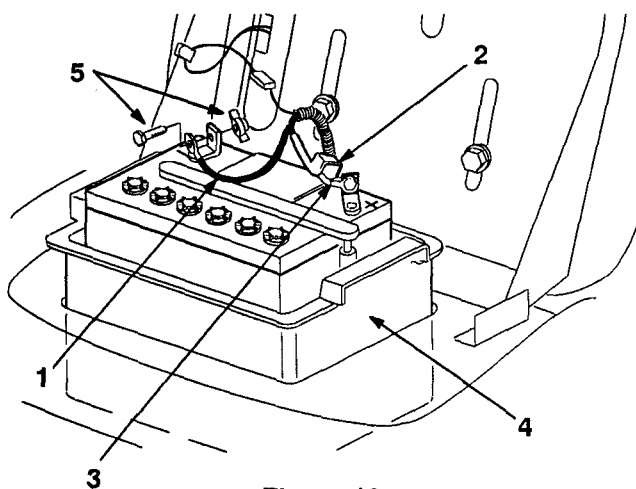

Figure 19
3. Disconnect the negative (black) ground cable from the battery post (Fig. 19).
4. Slide the rubber cover up the positive (red) cable. Disconnect the positive (red) cable from the battery post (Fig. 19).
3. Using the bolt and wing nut, connect the positive (red) cable to the positive (+) battery post (Fig. 19). Slide the rubber cover over the battery post.
4. Using the bolt and wing nut, connect the negative (black) cable to the negative (-) battery post (Fig. 19).